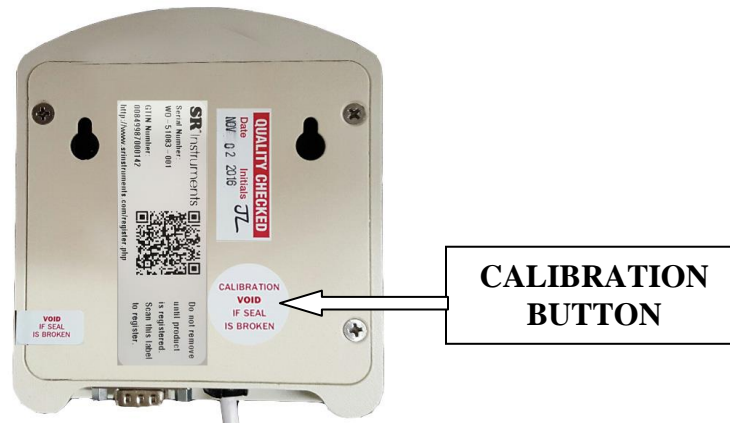
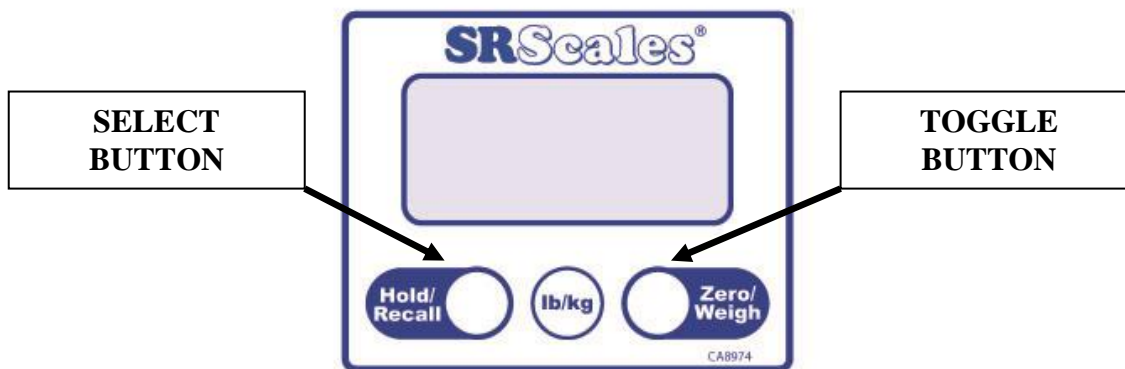

Figure 2: Calibration Button
Figure 3: Select and Toggle Button
Figure 2: Calibration Button .....	10
Figure 3: Select and Toggle Button .....	10
To access all settings below, break the Calibration Seal. Press the calibration button (Figure 2) using the pointed-end of a pen or similar item. CAL mode is now active.
Refer to Figure 3. The Right Button allows you to toggle through the menus without saving any parameters. The Left Button permits a menu item to be selected or a parameter saved.
To enter the CAL mode, press the calibration button (Figure 2) using the pointed-end of a pen or similar item. Toggle through the menu with Right Button (Figure 3). Select or Save data with the Left Button (Figure 3).
- g) Press the calibration button (Figure 2) using the pointed-end of a pen or similar item.